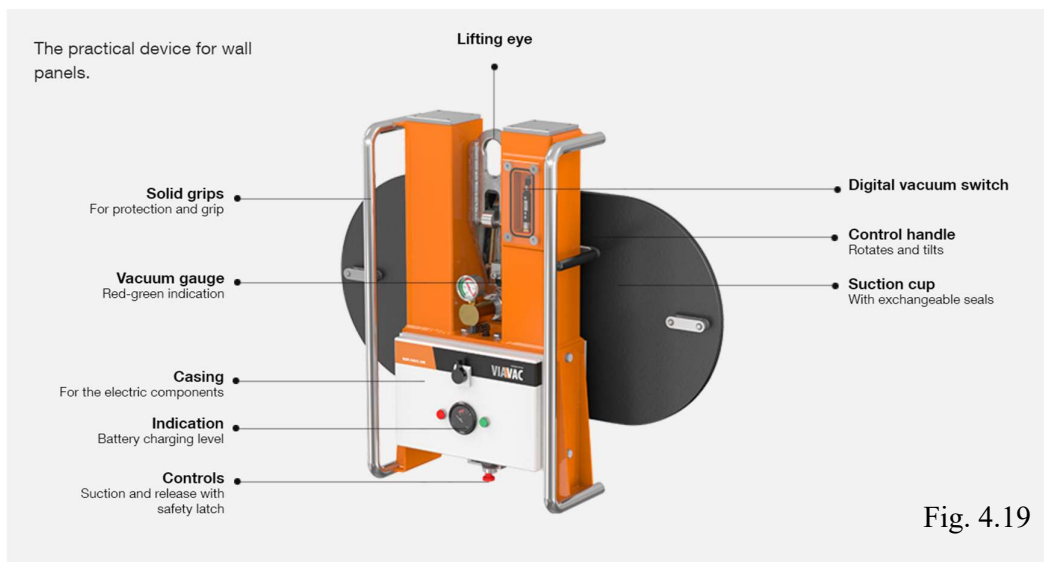

Fig. 4.19
4.19 Panel installation time is typically reduced when using vacuum lifting equipment as shown in Figure 4.19 and 4.23. Equipment must be designed for panel lengths, weights and profiles to be lifted – verify the requirements of your specific project with your lifting equipment supplier.